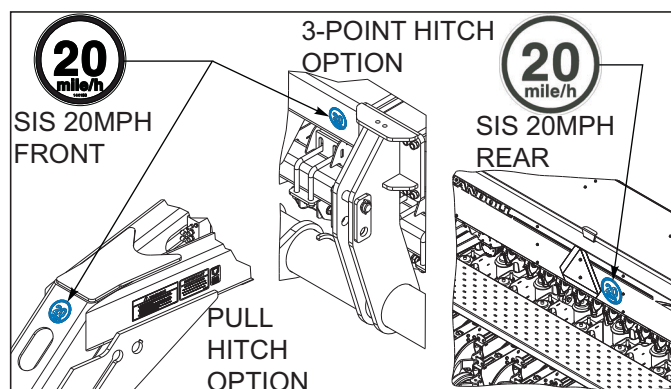

Figure 4-4: SIS 20MPH Decal
2. The Grain Drill should be transported only by a tractor required for field operation. The implement weight should not exceed more than 1.5 times the tractor weight. Unless noted on the implement, maximum transport speed is 20 mph for the implement and is designated on the speed identification symbol (SIS) located on the front and rear of the implement *See Figure 4-4.*